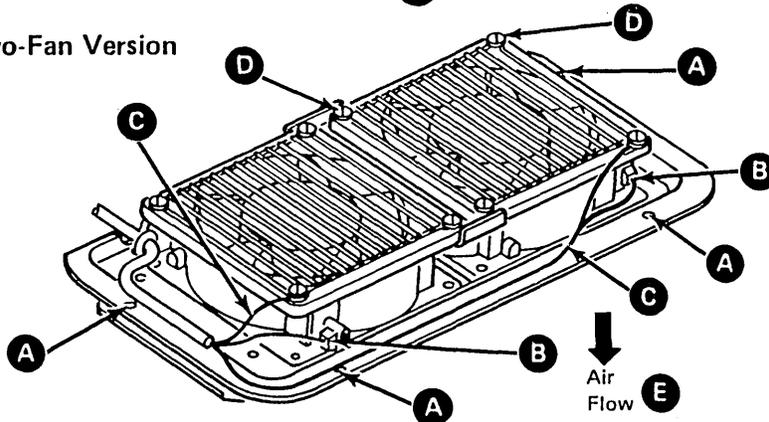

Figure 4-6. Fan Assembly
4.7 Fan Assembly, Removal and Replacement (Figure 4-6)